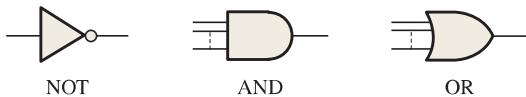

FIGURE 1–59
- Three basic logic operations are NOT, AND, and OR. The standard symbols for these are given in Figure 1–59.